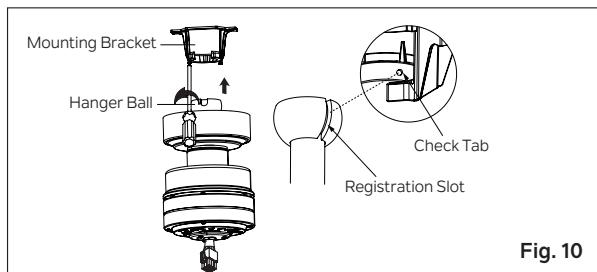

Fig. 10
Step 6. Lift the motor body into position and place the hanger ball into the mounting bracket. Rotate the entire assembly until the "Check Tab" has dropped into the "Registration Slot" and seats firmly. **(Fig. 10)** The entire motor body should not rotate if this is done correctly.